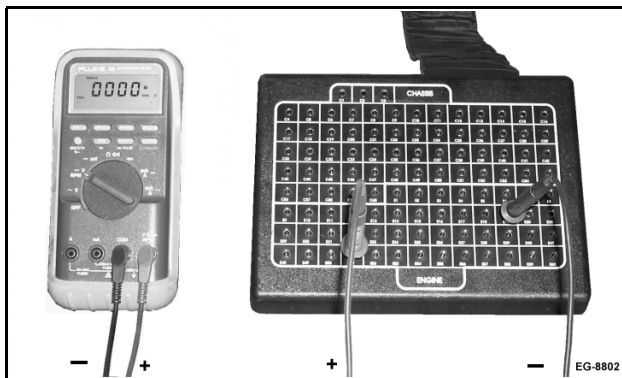

Figure 43 Measuring Engine Cranking RPM with Breakout Box
3. Connect the (+ lead) of the Digital Multimeter (DMM) to terminal 51 and the (- lead) to terminal 19. Select the **V / RPM** setting, then toggle to select **RPM** or **Hz** in the display. See Measuring Engine Cranking rpm with Breakout Box (See Figure 43, page 79).